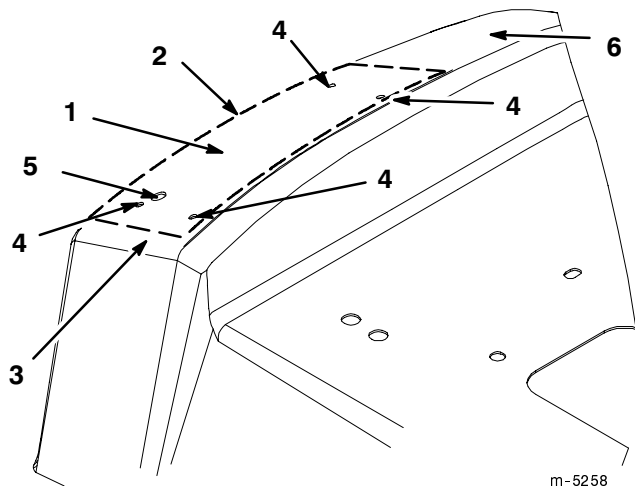

Figure 2
3. Position the template so front and outside edges, of the template, are positioned just where the fender top surface starts to curve down (Fig. 2).
7. Using a 7/32 in. drill bit, drill four holes into the fender as located on the template (Fig. 2).
8. Using a 3/8 in. drill bit, drill one hole into the fender as located on the template (Fig. 2).